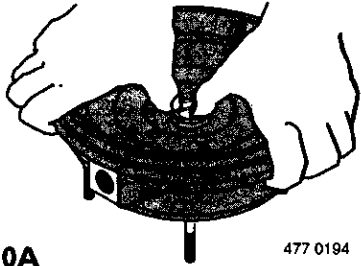

FIGURE 10A
C. With finger pressure press seat firmly and squarely into cavity. See Figure 10A. Polished face of seat faces inside of pump. If seat will not locate properly, place cardboard washer over polished face and use piece of 3/4" standard pipe for pressing purposes. See Figure 10B.